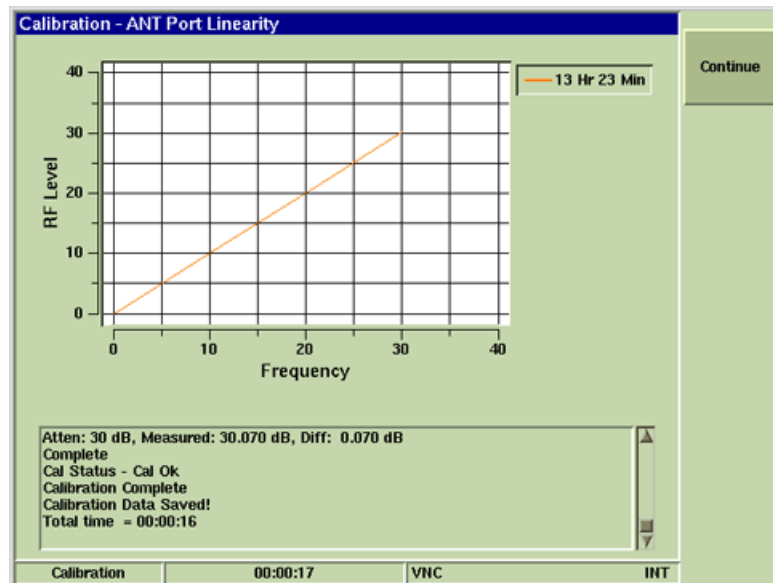

Fig. 4-27 ANT Port Linearity Signal Trace
- When the ANT Port Linearity Calibration Procedure is complete, verify Calibration Complete is displayed in dialog box. Verify signal trace on Test Set resembles signal trace shown in Fig. 4-27.